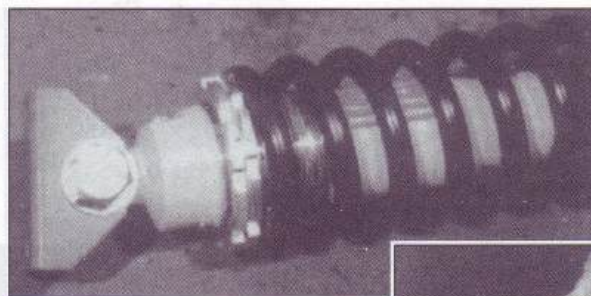

Fig.2f. Bottom bracket fitted.
5. Attach the bottom bracket to the lower eye of the shock absorber as shown in fig.2f.